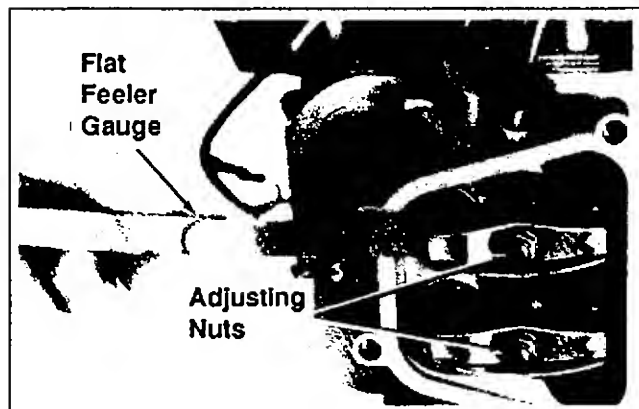

Figure 11-21. Adjusting Rocker Arm/Valve Clearance.
- b. Insert a flat feeler gauge between the rocker arm and valve stem. See Figure 11-21.